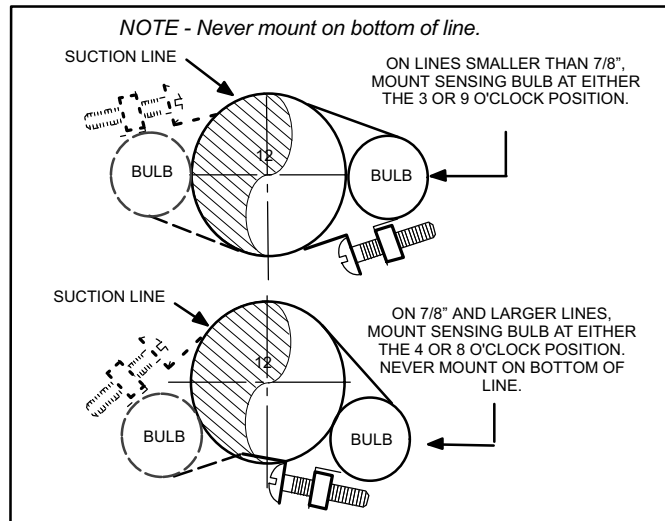

Figure 12. TXV Sensing Bulb Installation
5. Attach the sensing bulb of the TXV in the proper orientation as illustrated in figure 12 to the suction line using the clamp and screws provided in the TXV kit.